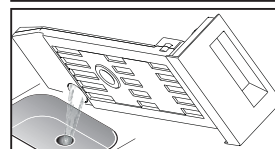

Fig10
2. Tilt the water container, pour out the condensate water into basin.(Fig10)